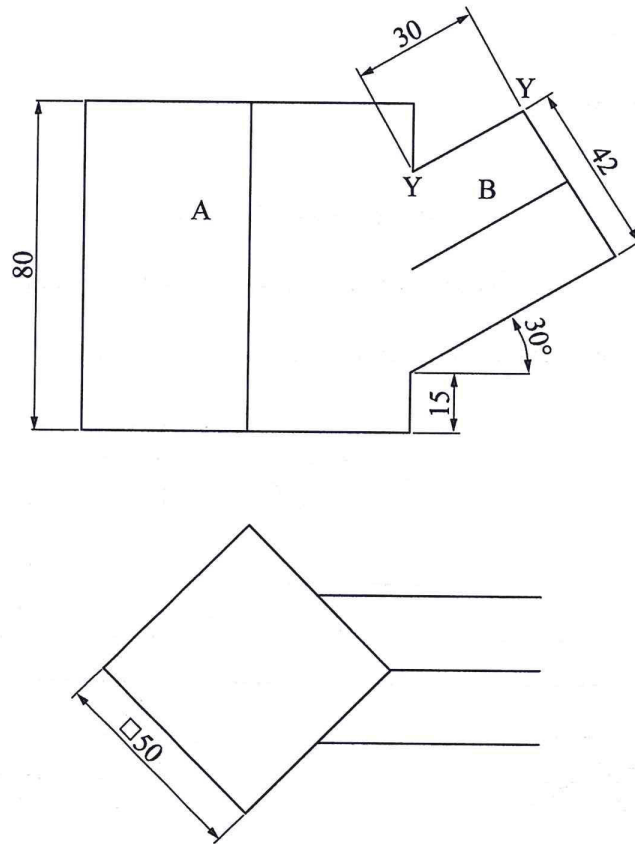

Figure 6
13. Figure 6 shows two square tubes A and B intersecting at an angle of 30° .